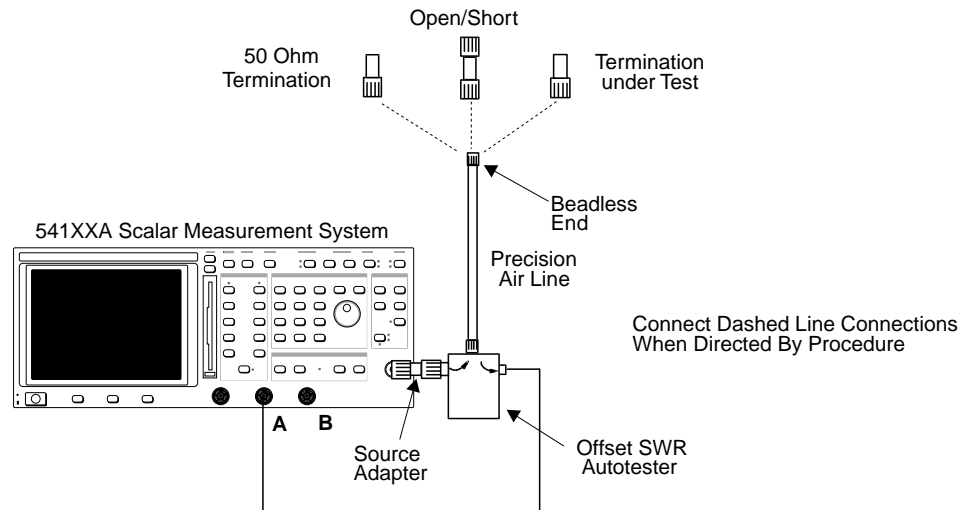

Figure 4. 541XXA Precision Return Loss Test Setup
1. Connect the test equipment as shown in Figure 4 (above).